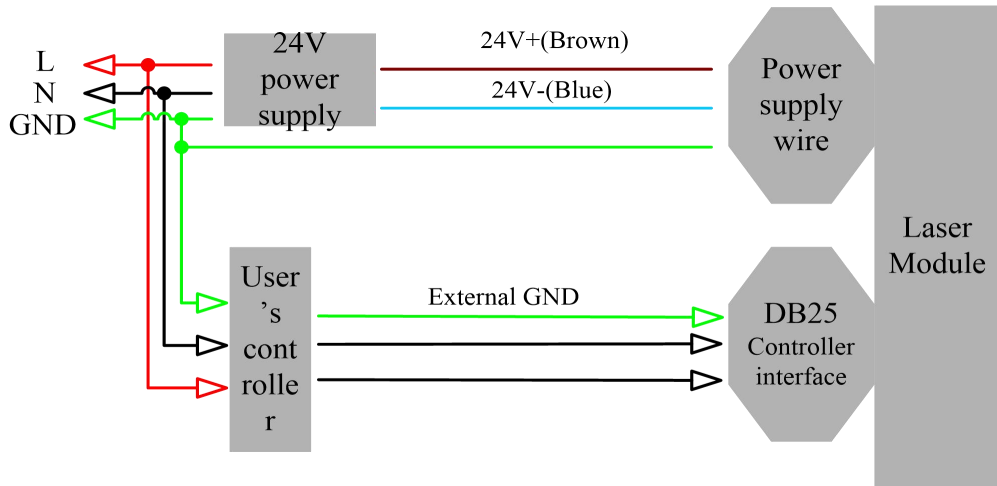

Figure 4 Schematic of recommended electrical connection
- Make sure that the interface of the external controller matches the laser and the control cable is well connected to the laser's interface. The recommended electrical connection is shown in Fig. 4.